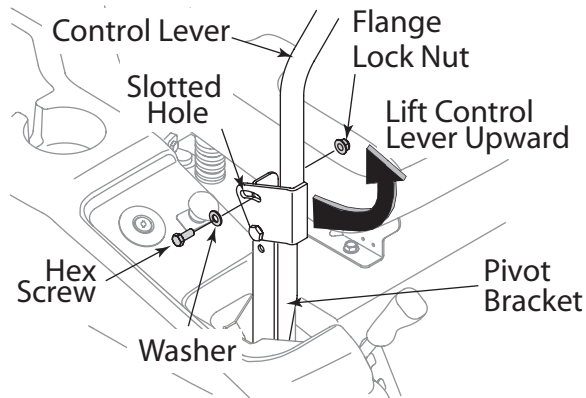

Figure 3-3
2. Lift and swing that control lever upward until the slotted hole in the lever bracket aligns with one of the holes in the pivot bracket. Refer to Figure 3-3.
3. Slide the flat washer onto the hex screw. From the outside, insert the hex screw w/washer through the control lever slot and the hole of the pivot bracket. Secure with the flange lock nut. Refer to Figure 3-3.